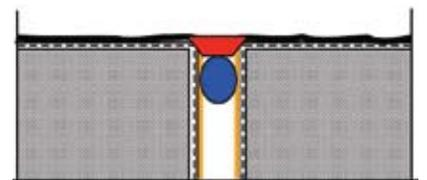

Fig. 6
8. Install closed cell backer rod to the proper depth in the joint. Apply sealant (Fig. 6) and tool to ensure intimate contact with the joint surfaces.